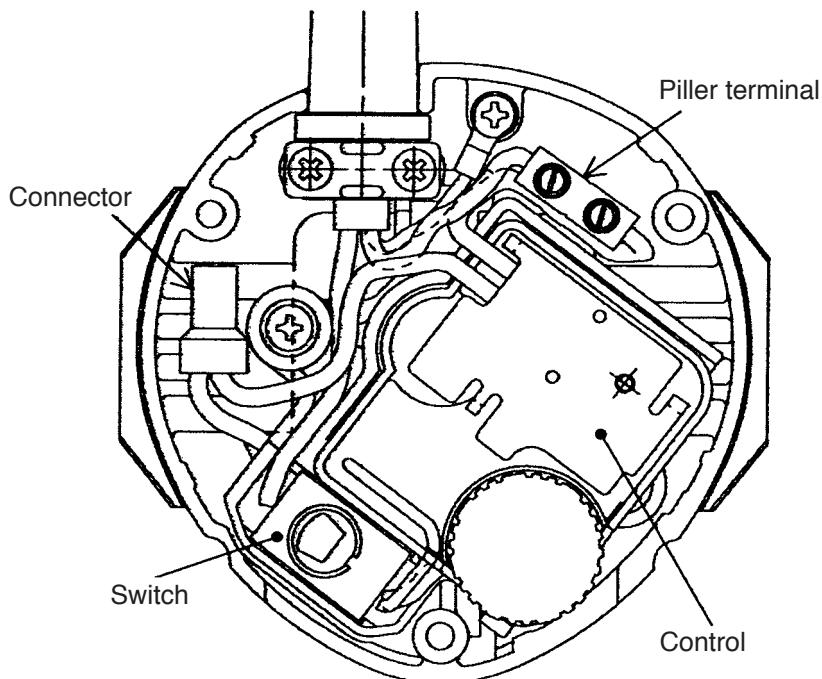

Fig. 14
(2) Wiring procedure (Fig. 14)